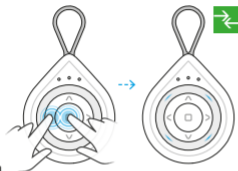

Fig. 9a
2. Press the buttons STOP and LEFT and hold them for 5 seconds until 4 LEDs light up signaling radio transmission. Blue color - bidirectional communication enabled - Fig. 9a. Red - bidirectional communication disabled - Fig. 9b.